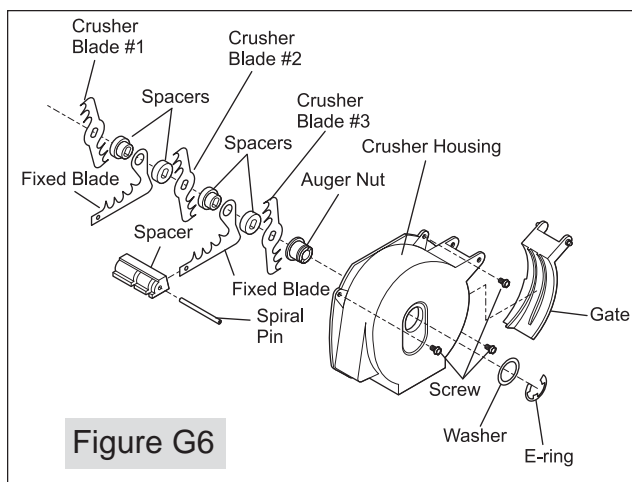

Figure G6
1. Remove Auger Nut to gain access to Crusher Blades. Each blade is separated by Spacer. (See Figure G6)